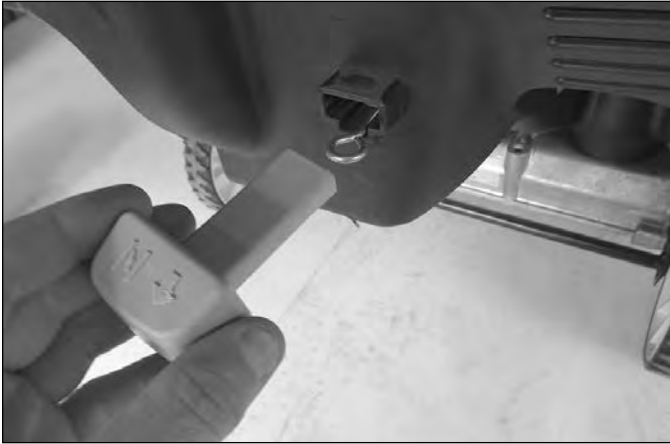

Fig. 010
3. Remove the screw from the underside of the choke knob and remove the choke knob (Fig. 010).